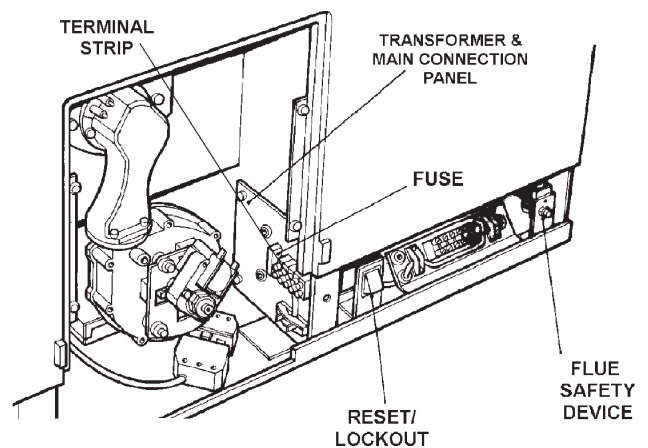
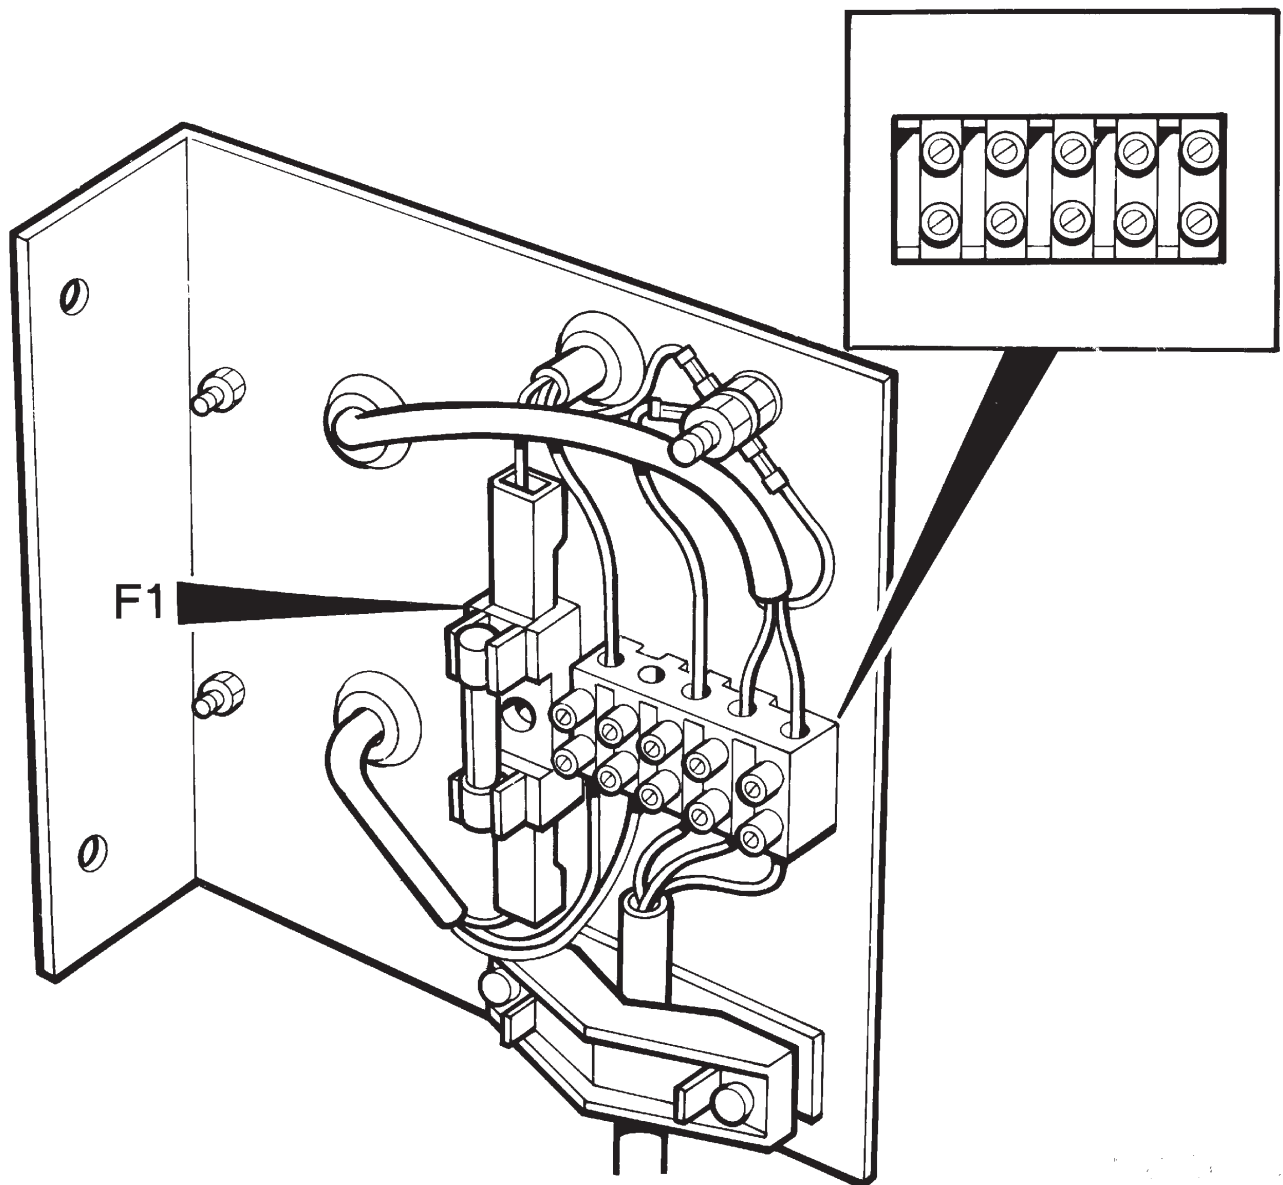

FIG. 6
FIG. 7
- SEE FIG. 6
This appliance comes with a three-prong plug which should be connected to a proper receptacle. See page 10 (Electrical). This is fitted internally to the terminal strip shown in Fig. 6 and Fig. 7.